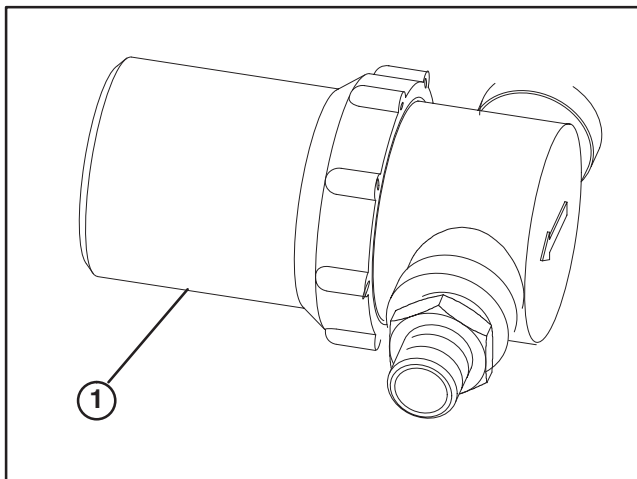

Figure 10
1. Unscrew bowl from strainer (Fig. 10).